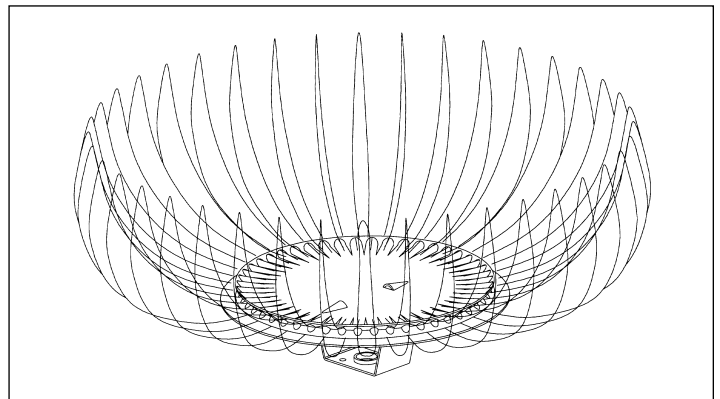

Figure 4
At least every three (3) months, check the burner and pilot flames. The burner flames must be a soft blue flame with no yellow tips. Yellow tips indicate a carbonizing flame which can, depending on severity, deposit carbon (soot) on the combustion chamber and flue passages. A sheet metal burner is used on natural gas models (see Figure 4).